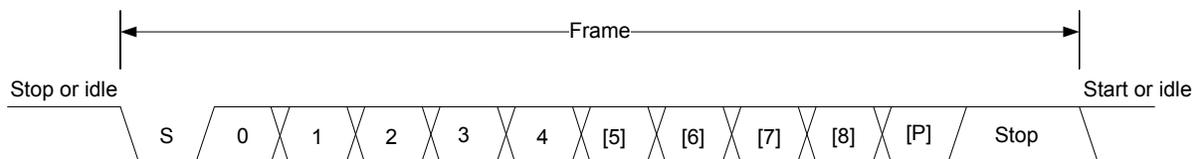

Figure 20.2. USART Asynchronous Frame Format
The frame format used in asynchronous mode consists of a set of data bits in addition to bits for synchronization and optionally a parity bit for error checking. A frame starts with one start-bit (S), where the line is driven low for one bit-period. This signals the start of a frame, and is used for synchronization. Following the start bit are 4 to 16 data bits and an optional parity bit. Finally, a number of stop-bits, where the line is driven high, end the frame. An example frame is shown in Figure 20.2 USART Asynchronous Frame Format on page 488.